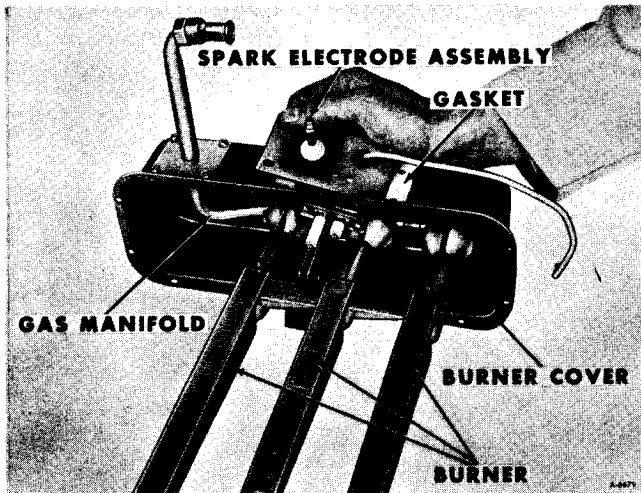

Figure 20 — Removing Spark Electrode Assembly
8. NOTE: Spark electrode must clear burner orifices during removal (Figure 20). Carefully move spark electrode assembly to the right. Gently tilt upward as shown, and remove from burner cover.
1. Noting the location of burner orifices (Figure 20), carefully install spark electrode assembly and gasket. Secure spark electrode assembly with four mounting screws (Figure 19).
NOTE: The burner assembly of the furnace is composed of three burners which are attached to the burner cover (Figure 20).